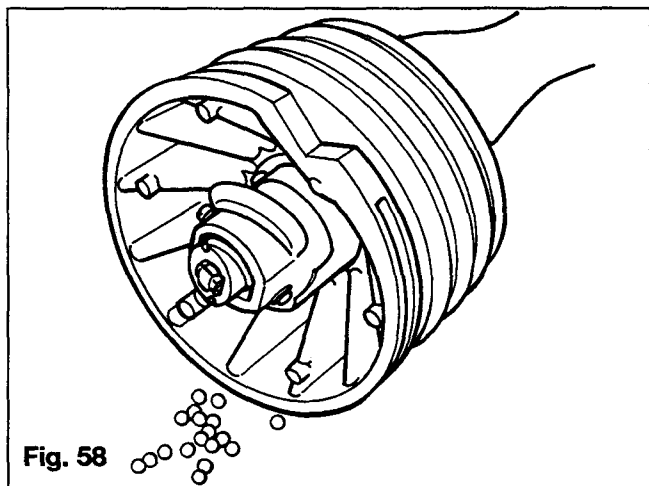

Fig. 58
6. Lay the reel down on its side with ball screw in a horizontal position. Rotate the ball screw three or four times to seat ball bearings in proper location. Refer to Figure 58.